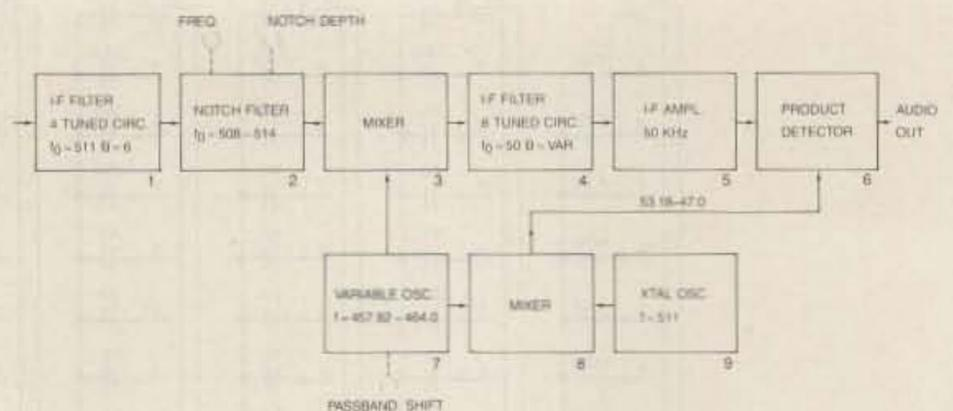

Fig. 5. Block diagram of second and third i-f sections in PAQSE's receiver, incorporating passband shift. Frequencies in kHz.
scribed here in detail. Only the principle will be shown, with the help of the block diagram, Fig. 5.
The receiver has a first tunable i-f of 3.5 to 4.5 MHz. The second i-f is 511 kHz. Selectivity on this frequency is provided by a bandpass filter with four tuned circuits. Bandwidth is about 6 kHz. This filter is indicated as 1 in Fig. 5. It is followed by a notch filter (2) with adjustable rejection frequency and notch depth. (As mentioned, this is more or less superfluous with the variable i-f filter now used.) The second i-f at 511 kHz is converted to 50 kHz in the mixer (3). This frequency is the difference between the 511-kHz signal and the oscillator signal from the variable-frequency oscillator (7). This oscillator affects the passband shift, and its frequency can be varied between 457.82 and 464.0 kHz.